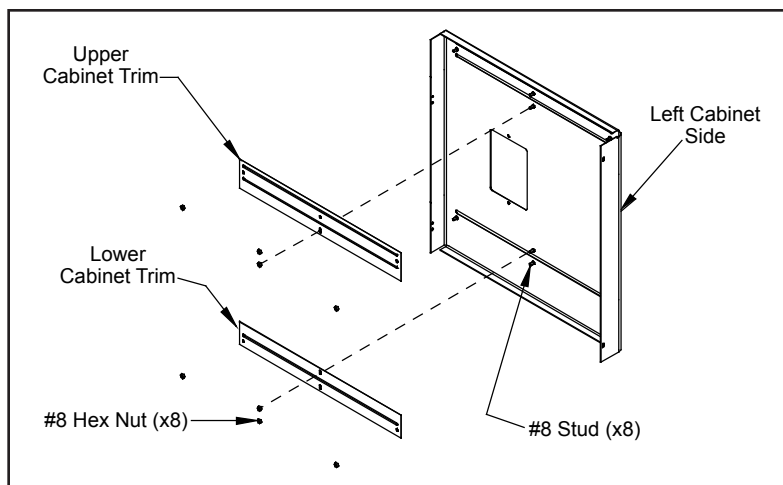

Figure 35: Right cab side with upper and lower cabinet trims.
Place the new trim pieces on their corresponding studs and finger tighten the #8 hex nuts (four (4) for each piece of trim). Refer to Figure 35.